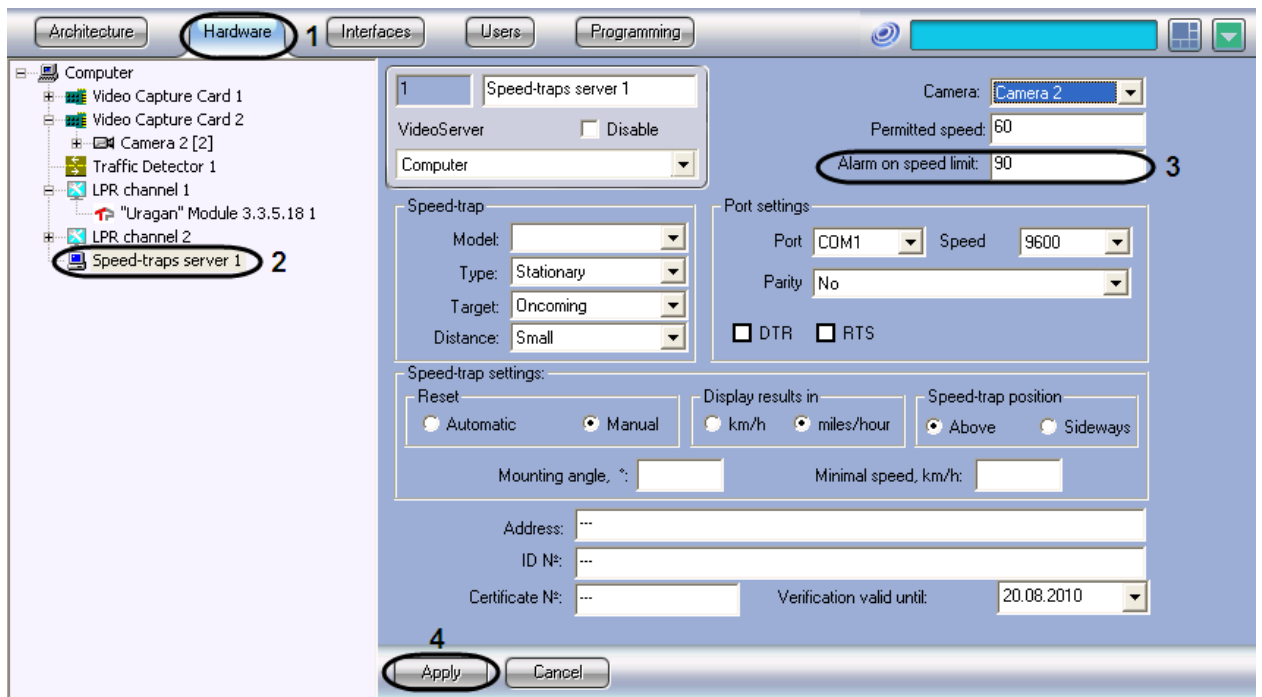

Fig. 7.3-3 Speed limit setup
2. In the object tree on the left side of the Hardware tab, select the Speed-trap server object representing the Radar module to be set up. The settings panel of the selected object will open on the right side of the window (see Fig. 7.3-3).